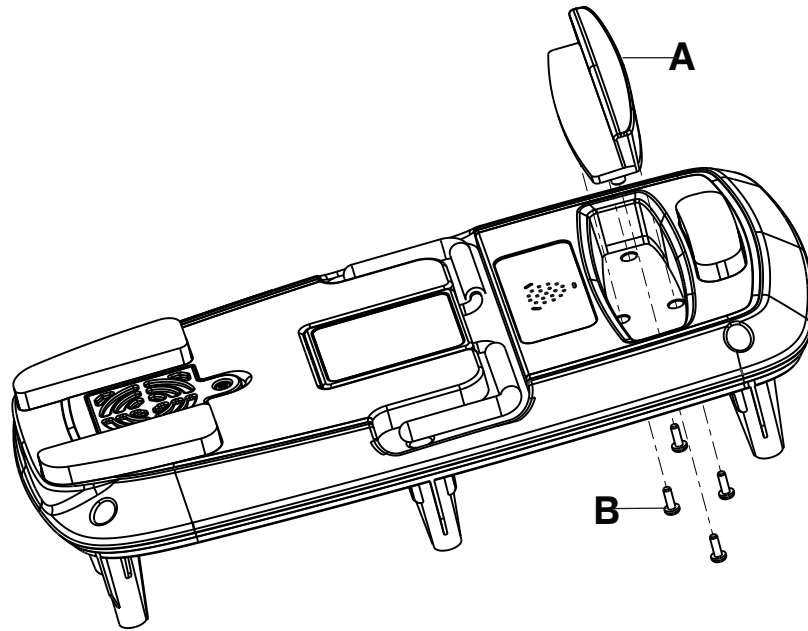

Figure 23 – Transport handle
6. Using a #2 Phillips screwdriver, remove the four screws (B) that secure the transport handle (A) to the back pump housing (Figure 23). Save the screws.